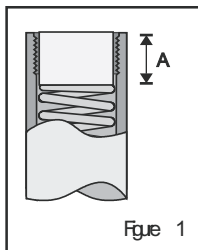

Figure 1
- A. Measure from the top of the fork spring to the top of the fork tube (See figure 1).